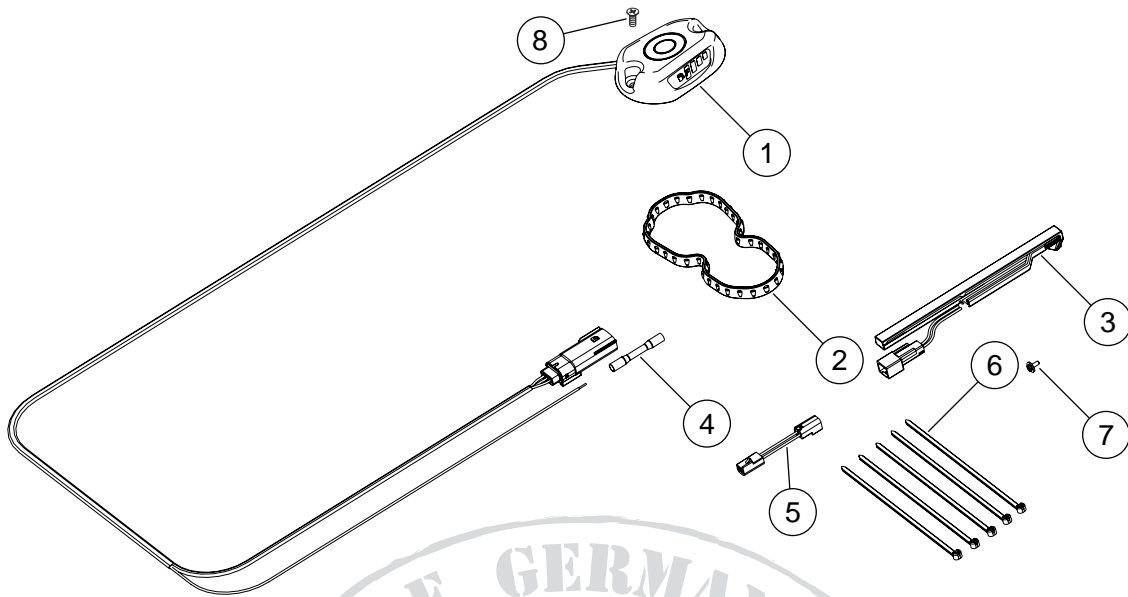

Figure 4. Service Parts for Sportster Fuel Gauge
See Figure 4 and Table 1.
- d. Secure the fuel level sensor to the fuel pump with screw (3). Tighten the screw enough to seat the fuel sensor against the mounting tab.
- e. Route fuel level sensor wiring under the fuel hose and connect the fuel level sensor to the low fuel switch connector on the fuel pump module. If necessary use the jumper harness (Figure 4, item 5).
4. Install fuel gauge (6), stock diaphragm plate and diaphragm (3 and 4) and two screws (1) to the front master cylinder (5). Tighten the screws to 9-17 **in-lbs** (1.0-1.9 Nm).
5. See Figure 4. Route the fuel gauge harness along the handlebar following the turn signal wiring, down to the main harness. Then route it inside the coil bracket and main harness caddy, back along the backbone toward the seat pan area.
8. Secure the fuel gauge harness and orange wire to the main harness with cable straps (6). Coil and secure excess harness and wire length.